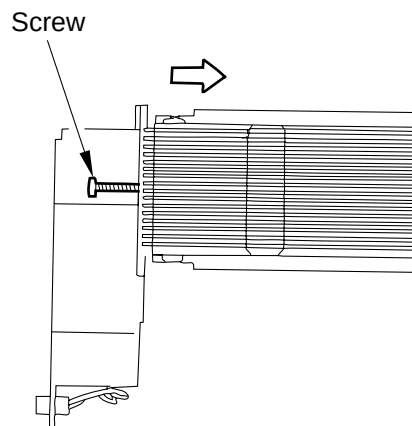

Figure 11-219
- 3) Loosen the mounting screw, and move the assembly in the direction indicated in Figure 11-219; then, fix it in place temporarily.